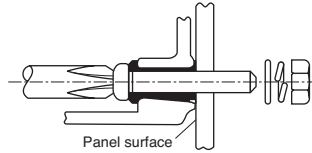

Figure 2
2. Thrust the screws into panel holes and secure the screws with nuts (Figure 2). Waterproof characteristics are not affected by piecing the bushings with screws.